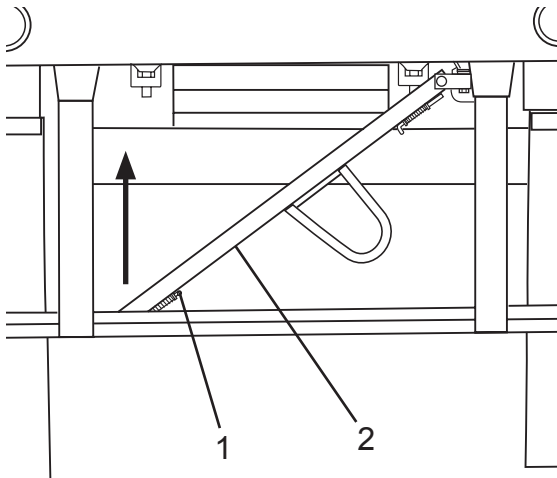

Figure 17
3. Standing behind the tailgate, release the pin (Figure 17, Item 1) and swing the prop (Figure 17, Item 2) toward the truck frame.